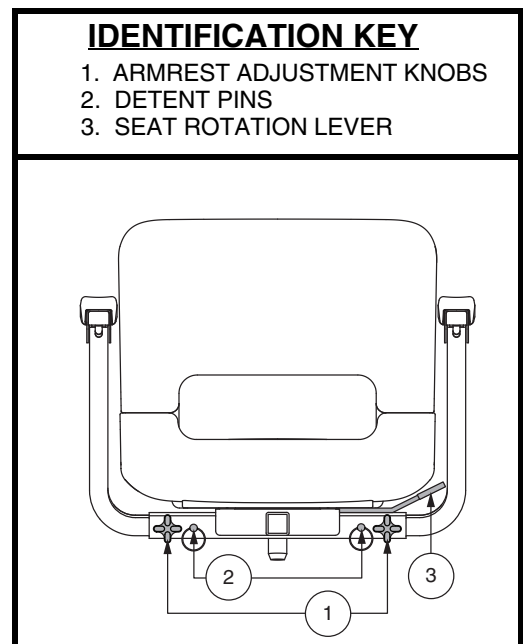

Figure 14. Seat Adjustments – Style A
1. Loosen the armrest adjustment knobs. See figure 14.
1. Depending on your seat type, either pull upward or push forward on the seat rotation lever to disengage the seat. See figure 14 or 15.